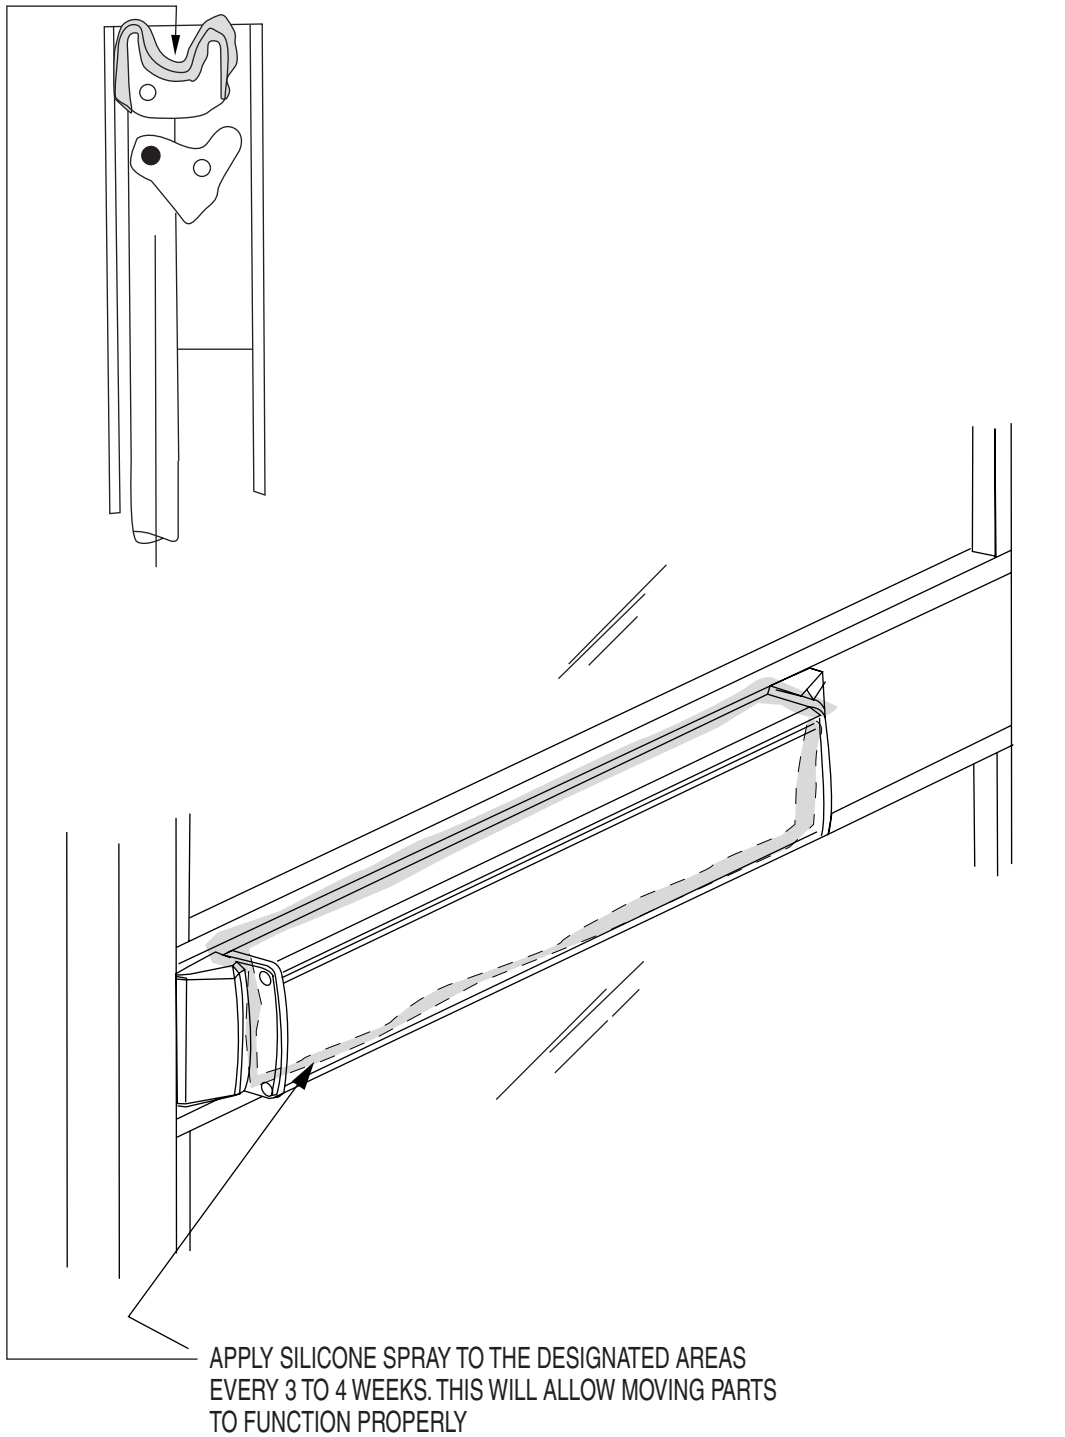

Figure 3
3. Exit Device (Panic) Hardware (fig. 3 pg. 32)